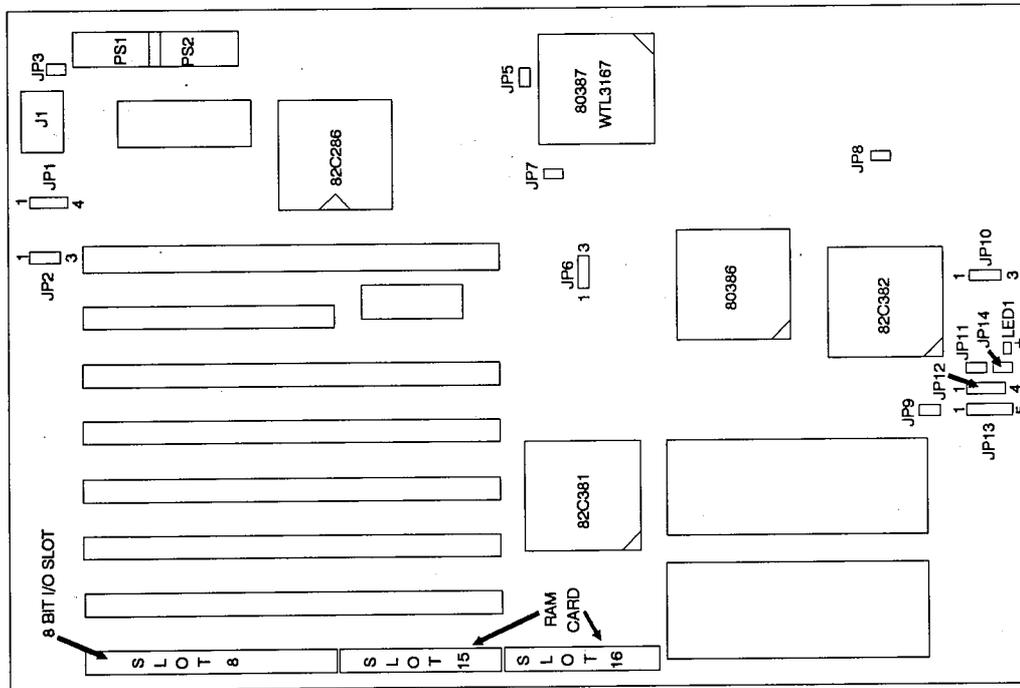

Figure 2-1. System Layout Block Diagram.
**Note:** Slot 8 in figure 2-1 is for an 8 bit I/O card *only*. Please do not insert a 16 bit I/O card in this slot.